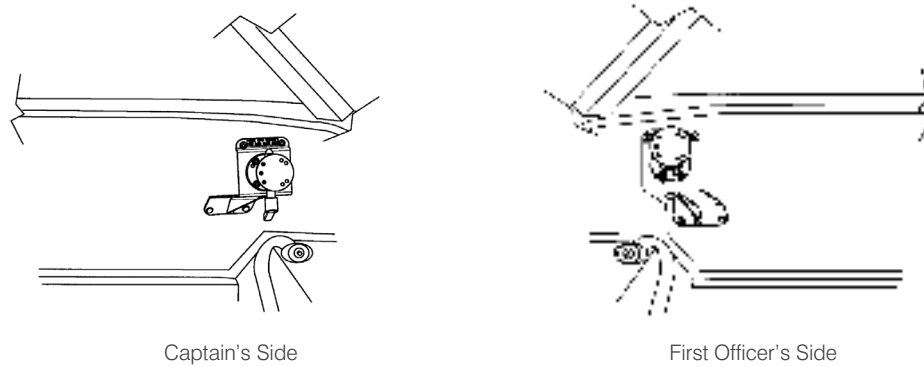

FIGURE 1:
- » The EZMount mounting arms used for EFB Display units are installed as shown in Figures 1 & 2.